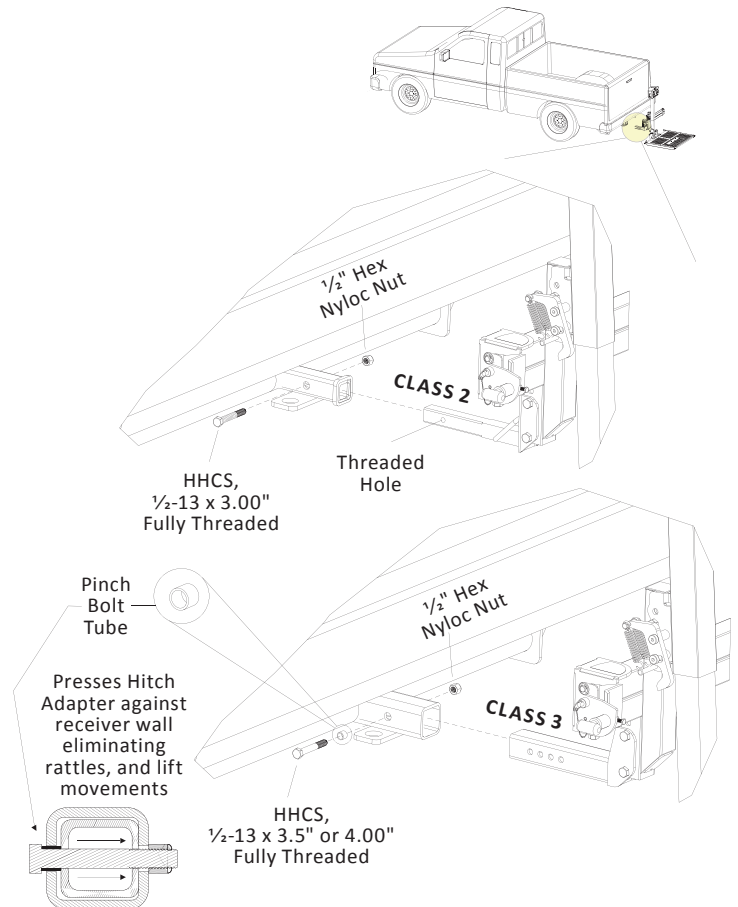

Figure 4-10
3. Insert the hitch adapter into the receiver on the vehicle's hitch. Secure the adapter according to the hitch class. See Figure 4-10.